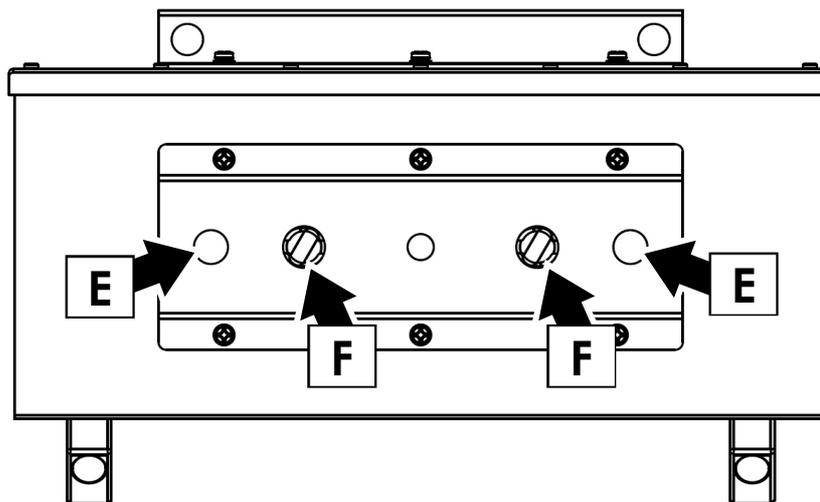

Figure 28. KNV PSU mounting options
See Figure 28 **Error! Reference source not found.** on page 44. It is possible to install the PSU's mounting plate in position **A** or **B**. To reposition the mounting plate, remove the six mounting plate screws **C**, move the mounting plate 90° around to the other free side of the PSU, and reinstall it by fastening the six screws into the corresponding holes in that side of the PSU.
2. See Figure 28. Fasten the omega bracket to the mounting plate on the PSU by fastening the bracket's quarter-turn fasteners into holes **F**. Turn fasteners a full 90° clockwise to lock.
4. If there is a risk of injury or damage if the PSU falls, secure it with an approved safety cable passed through one of the holes (**E** in Figure 28) in the mounting plate or